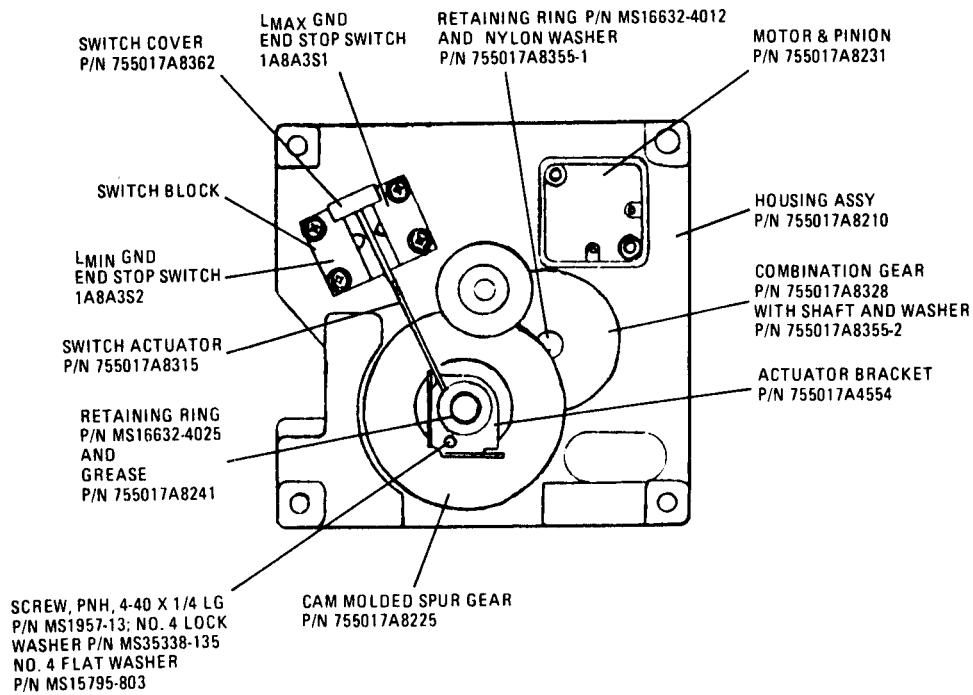

Figure 3-28. Tank Circuit Module Assy 1A8 Adjustment Detail Views
3-123. Tank Circuit Module Assembly 1A8, with its associated servo motor (1A8A3B1) and end stop switches (1A8A3S1 and S2) will not require adjustment unless the assembly has been disassembled to repair or replace a damaged part. As shown in figure 3-28, the function of the L_{MAX} FORCE end stop switch 1A8A3S1 and the L_{MIN} FORCE end stop switch 1A8A3S2 is to limit the number of mechanical turns of the Variable Inductor 1A8A5L1 center shaft, thus preventing the contact attached to the shaft from running off the ends of the inductor coil assembly, damaging the rotor. The amount of travel between the end stop switches is the tuning range of inductor 1A8A5L1. The end stop switches are not adjusted to actuate at any significant value of inductance.
1. Refer to DETAIL B of figure 3-28. With coupling (P/N 755017A8339) secured only to the coil shaft and not to the pinion shaft (P/N 755017A8333-2) shown in DETAIL A of figure 3-28, rotate the coil until the coil contact is against the mechanical stop located at the gear-train end of the coil.
3. Rotate modified gear (P/N 755017A4563), shown in DETAIL A of figure 3-28, counterclockwise (CCW) until the L_{MAX} GND end stop switch 1A8A3S1, shown in DETAIL C of figure 3-28, just clicks, and snug one of the set screws that secures coupling (P/N 755017A8339) to pinion shaft (P/N 755017A8333-2).